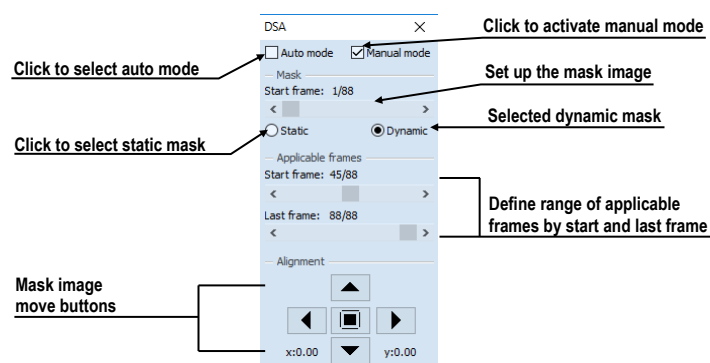

Figure 166 – DSA tool
2. Select the **Manual mode** in the **DSA** tool (see Figure 166).